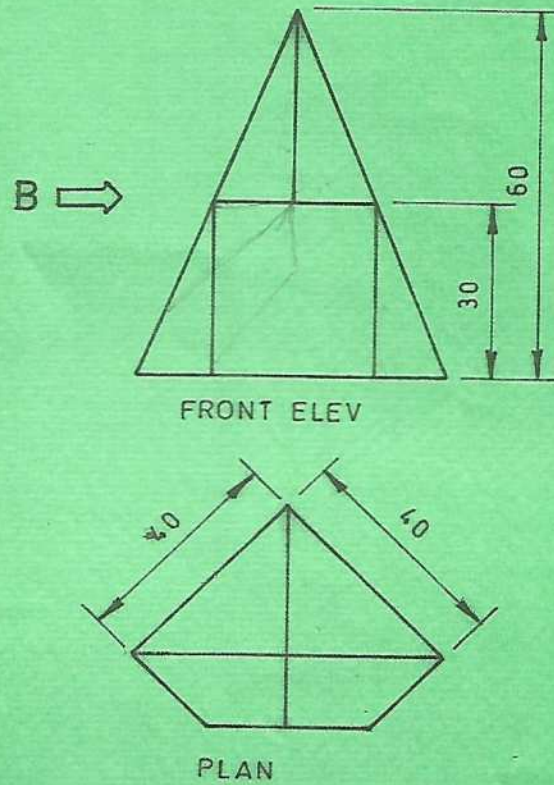

Fig.7
7. Figure 7 shows orthographic views of a square pyramid with part of it cut off.